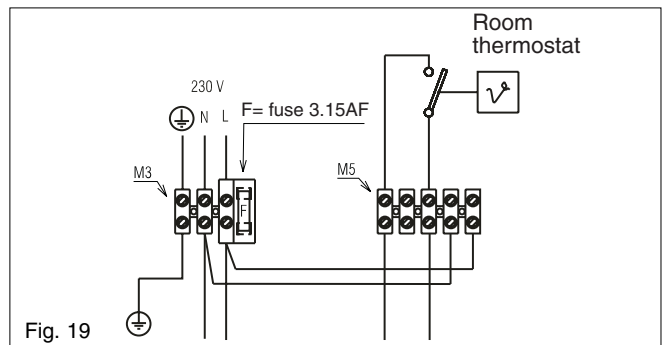

Fig. 19
4.7.3 CONNECTING THE MAINS (230V) INPUT (fig. 19)